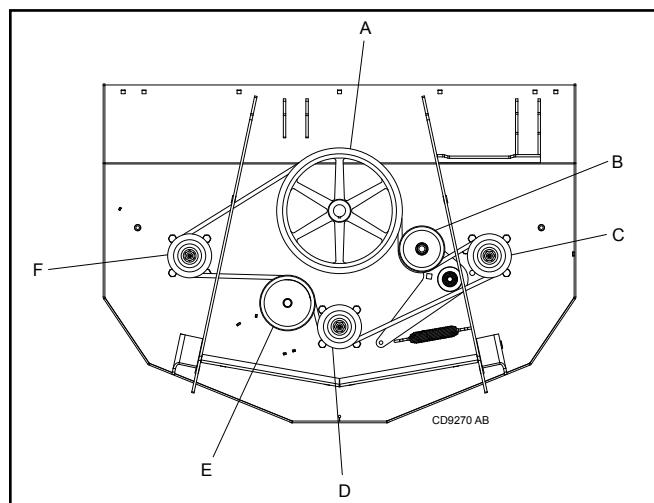

Figure 13. Belt Routing for TBW12.40 Wing Deck
1. Route belt around spindle sheave F, backside idler E, and spindle sheave D as shown in Figures 13–15.
4. Adjust belt guide G to provide 1/16" to 1/8" clearance from belt for decks in Figures 13 & 14. Tighten bolt to 85 ft-lbs.
- Route belt around spindle Sheave F, backside idler E, and spindle sheaves C & D as shown in Figures 13–15.